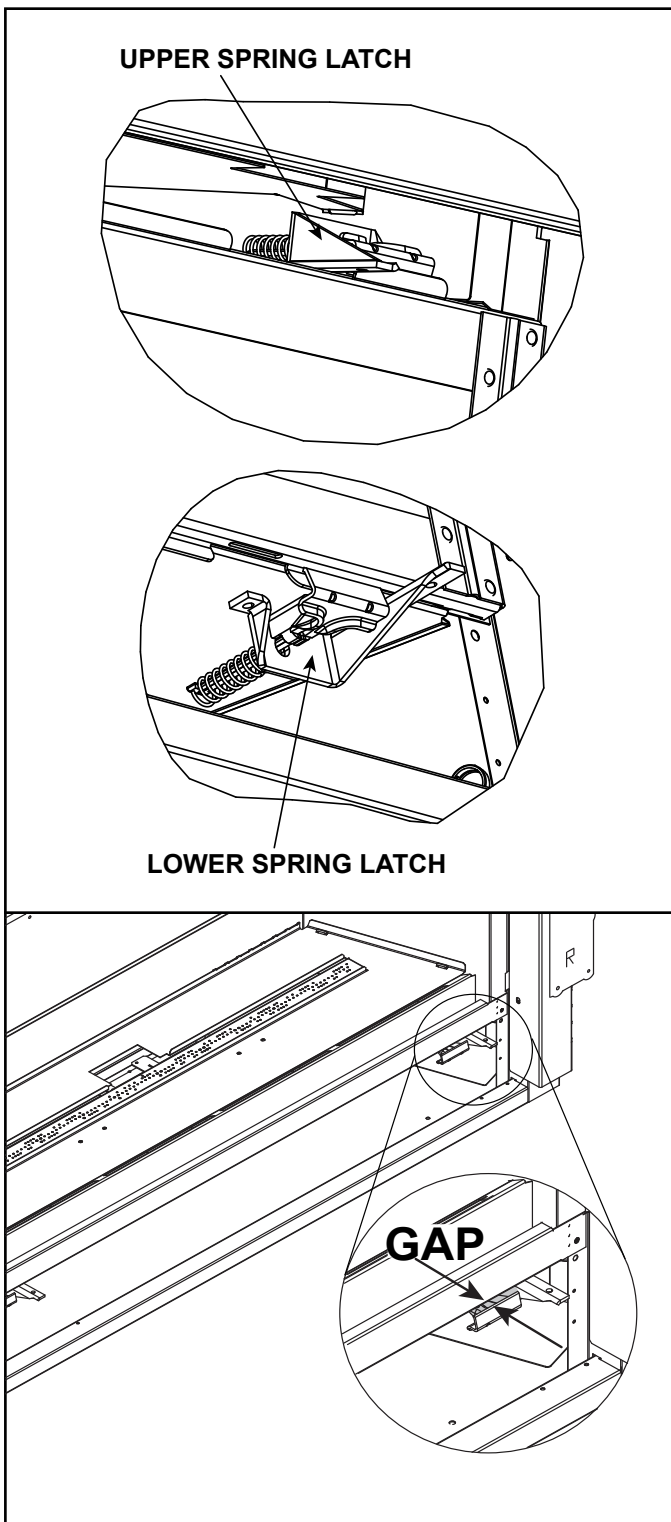

Figure 11.3 Fixed Glass Assembly
2. The glass assembly has two upper spring latches and two lower spring latches. See Figure 11.3. Locate the two spring latches that are on the upper left and right of the fireplace.
The bottom glass latches have been designed to create a small gap between the glass clip and the face of the appliance. See Figure 11.3.